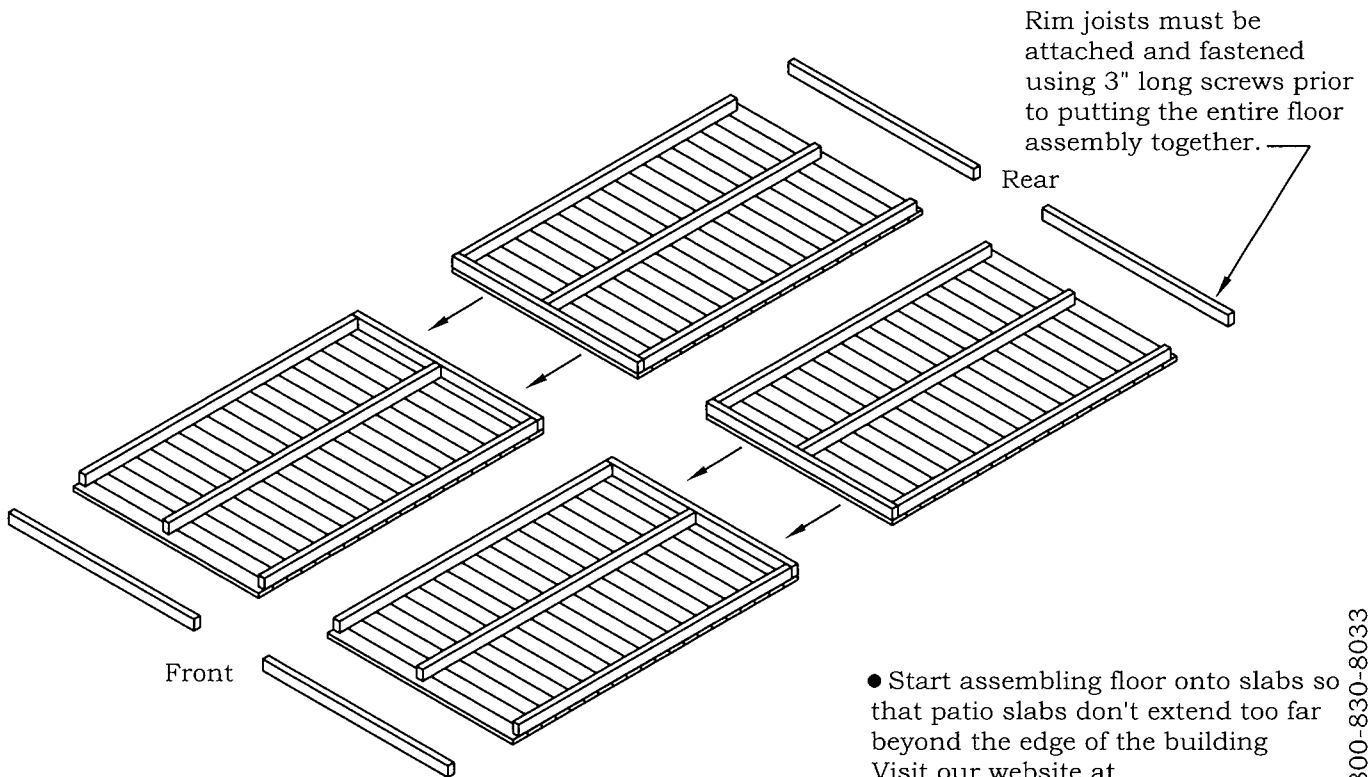

FIGURE F4
- Push the floor panels together as shown in Figure F4.